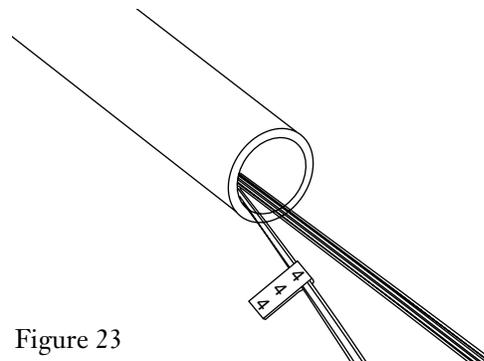

Figure 23
6.12 Label and separate this group of fibers with an identification number that corresponds to the color of the binder thread (Figure 23).